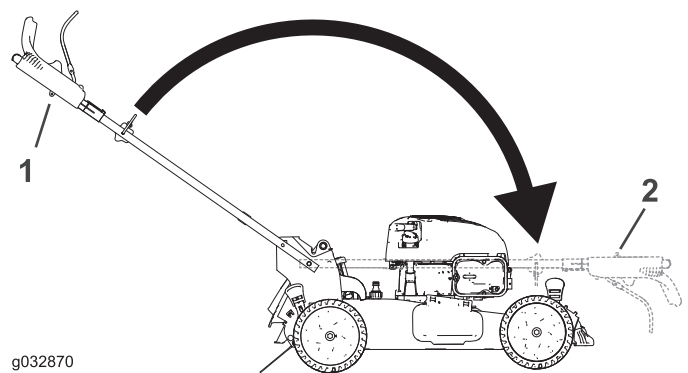

Figure 28
3. Fold the handle by rotating it forward (Figure 28).